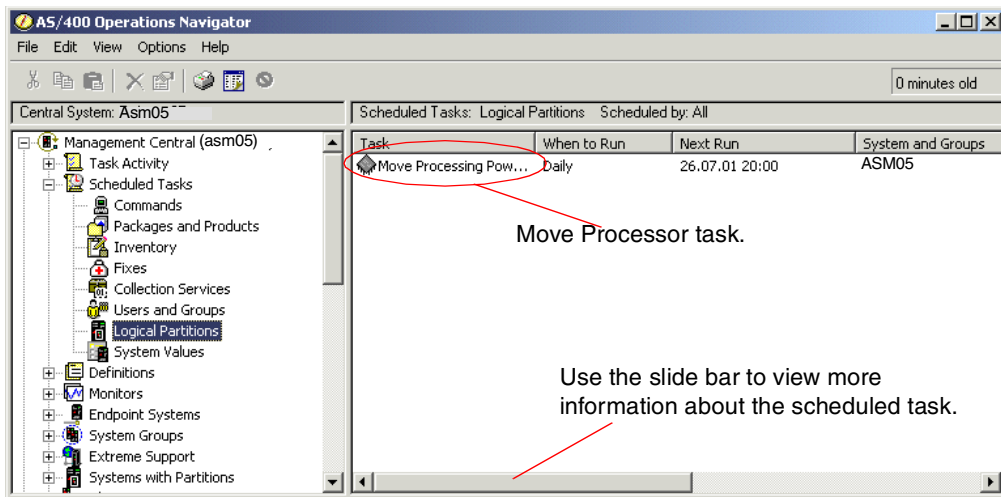

Figure 8-35 Management Central Scheduler display: Moving processor As05b to Primary
6. If you now look in **Management Central-> Scheduled Tasks-> Logical Partitions**, you should see the newly scheduled task as shown in Figure 8-35.